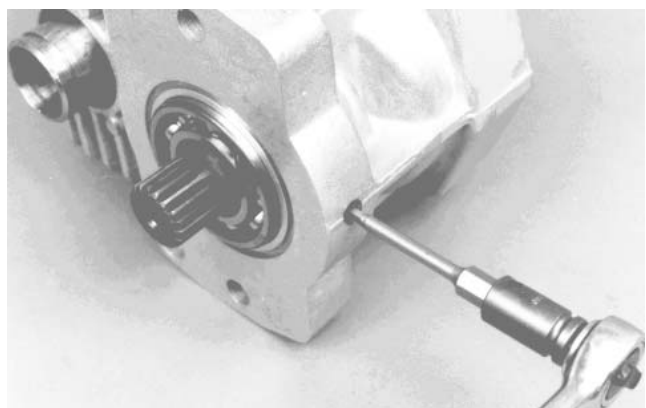

Figure 46
10. Use an internal hex wrench to remove pipe plug over motor shaft bearing retaining pin (Fig. 46).